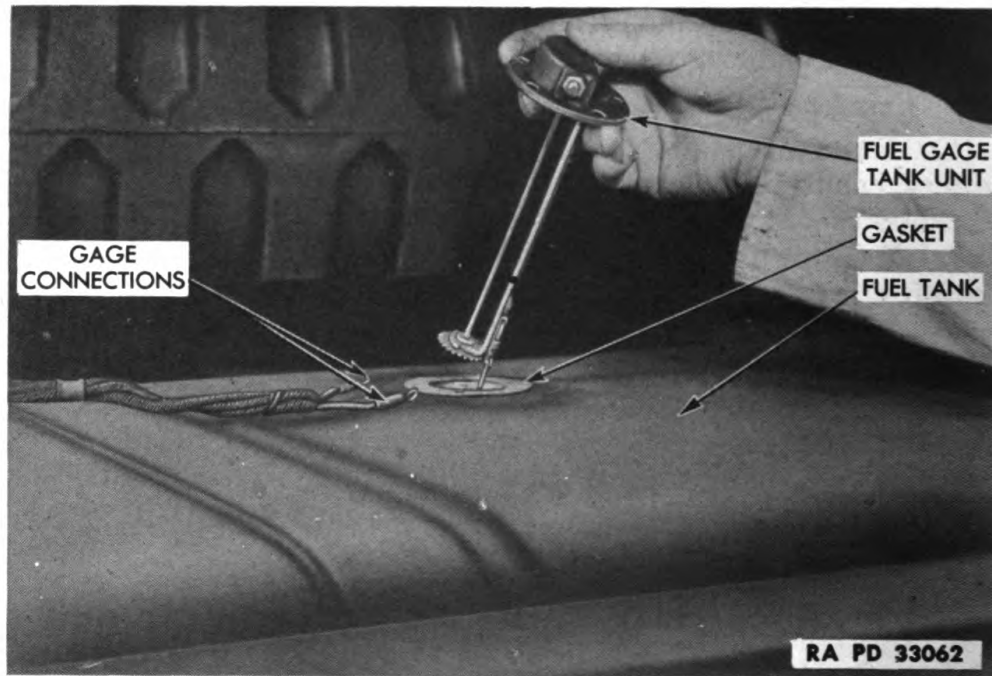

Figure 56—Fuel Gage Tank Unit Replacement
(3) **TANK UNIT REPLACEMENT** (fig. 56). Remove the wire from terminal on tank unit and the ground wire from under one of the mounting screws. Remove the screws that attach tank unit to top of tank, and remove the unit. Install a new tank unit in the reverse manner.